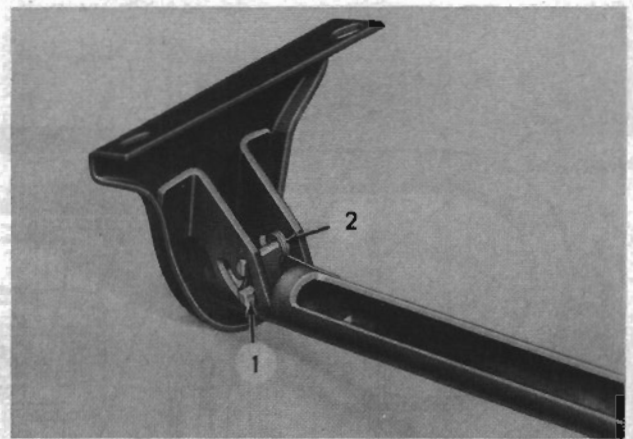

FIG. 25
To remove the latch (1, Fig. 25), push it forward as far as possible. Slip it out of the guide enough to pick off the spring (2). Then remove the latch.